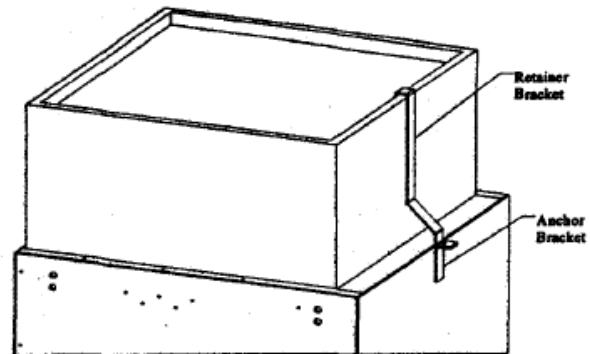

Figure 9
3. Install the HEPA retainer brackets by hooking one end to the filter frame and bolting the other end to the anchor brackets. See Fig. 9.